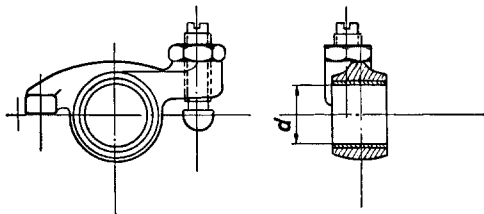

Figure 05-2/2
Remove the guard rings (3) from either end of the rocker shaft. Take the thrust washers (4), the rockers, the rocker brackets and the tension springs (8) off the rocker shafts (see Figure 05-2/1).